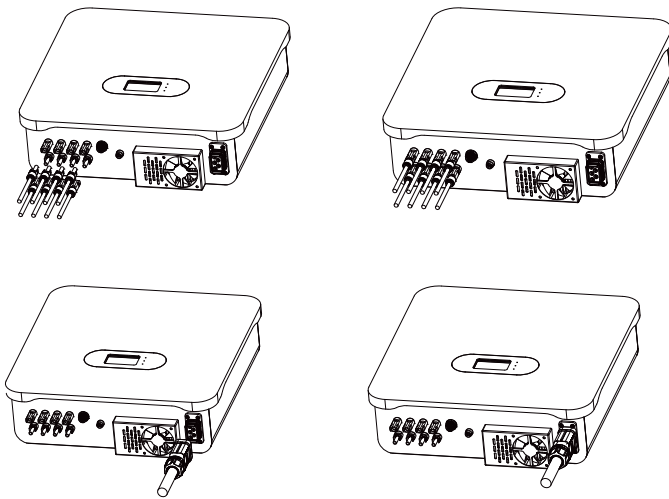

Fig.7-1
- 5) Press the right position of the terminal as Fig.7-1, when you hear a “click”, then you can pull out the positive and negative DC terminal adaptor as Fig.7-2.